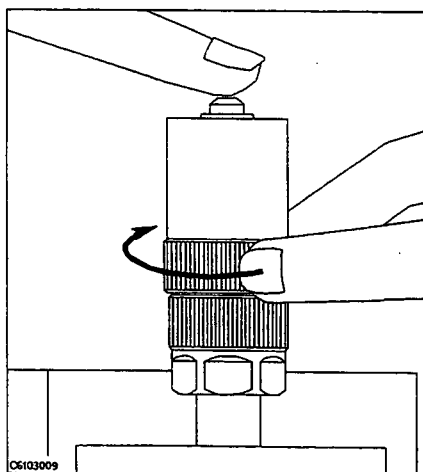

Figure 5-7.
5. Connect the 0 S termination to the APC-7[®] connector as shown in Figure 5-7.